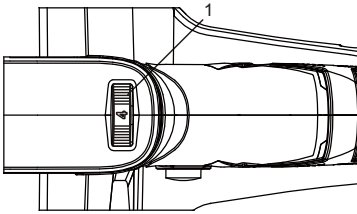

Fig. 5
The variable speed control (1) can be rotated to change the speed at which the roller will rotate (Fig. 5). Rotate the speed control to the LEFT (#1) for slowest speed and to the right (MAX) for the fastest speed.